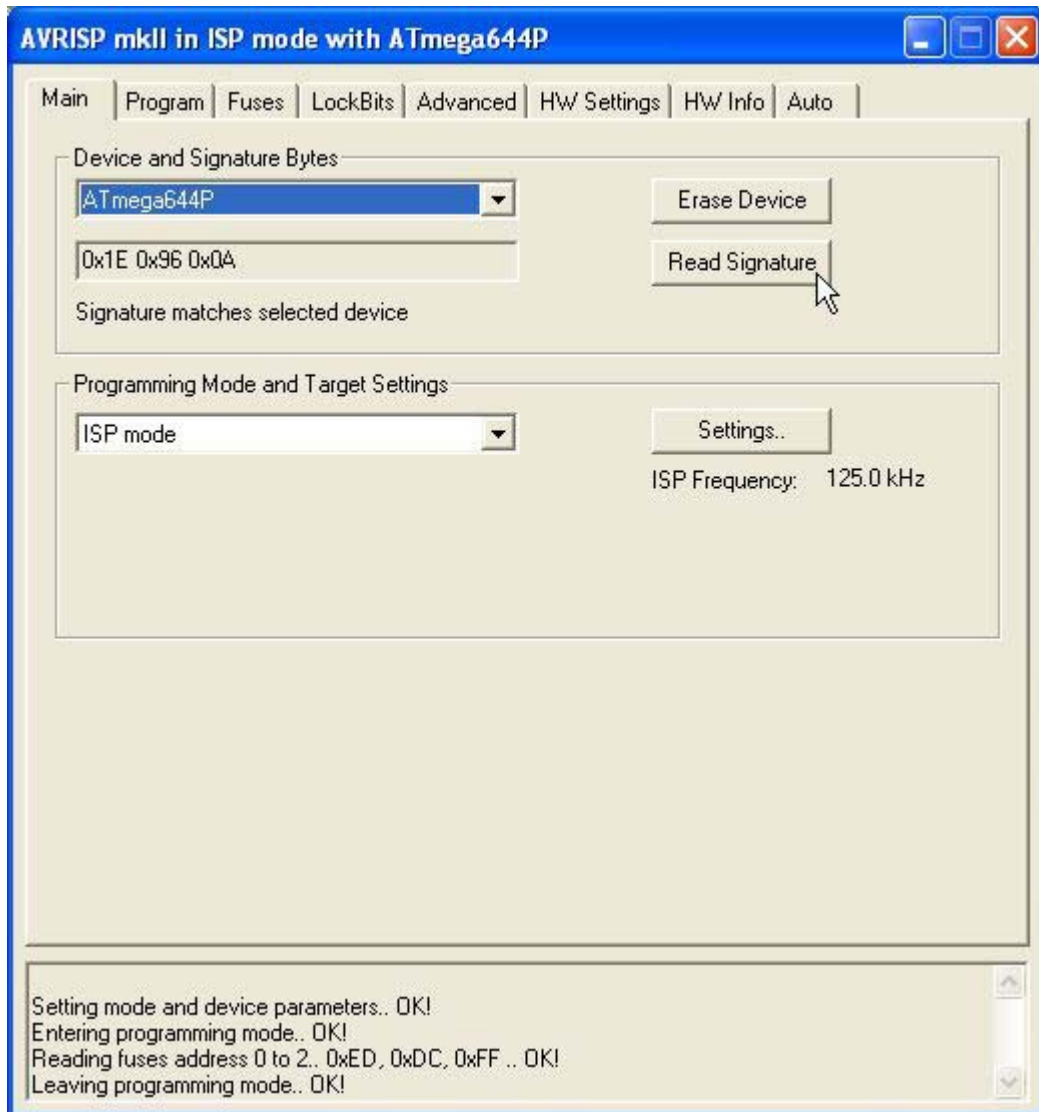

FIGURE D5: AVR STUDIO SETTINGS FOR AVRISP MK II (1 OF 4)
- i) In the *main* window below, select the *AT mega644P* microcontroller an *ISP frequency: 125.0 KHz* and push the bottom *read signature* in order to verify that the programmer is working properly, as it is shown in the figure D5.